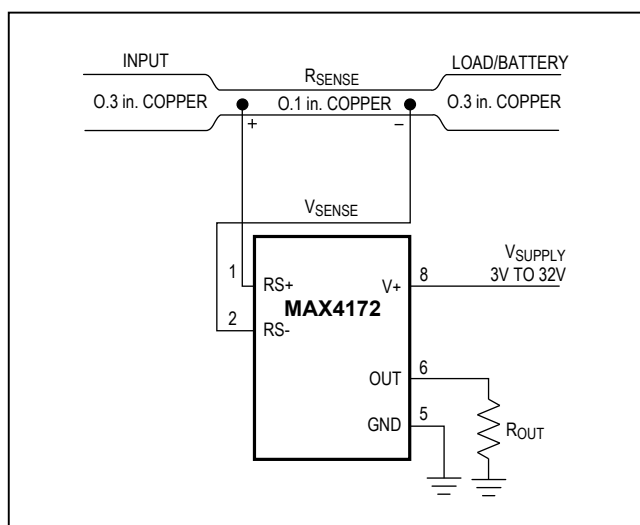

Figure 2. MAX4172 Connections Showing Use of PC Board
- **Cost:** If the cost of R_{SENSE} is an issue, you might want to use an alternative solution, as shown in Figure 2. This solution uses the PCB traces to create a sense resistor. Because of the inaccuracies of the copper resistor, the full-scale current value must be adjusted with a potentiometer. Also, copper's resistance temperature coefficient is fairly high (approximately 0.4%/°C).
In Figure 2, assume that the load current to be measured is 10A, and that you have determined a 0.3-inch-wide, 2-ounce copper to be appropriate. The resistivity of 0.1-inch-wide, 2-ounce (70μm thickness) copper is 30mΩ/ft. For 10A, you might want R_{SENSE} = 5mΩ for a 50mV drop at full scale. This resistor requires about 2 inches of 0.1-inch-wide copper trace.